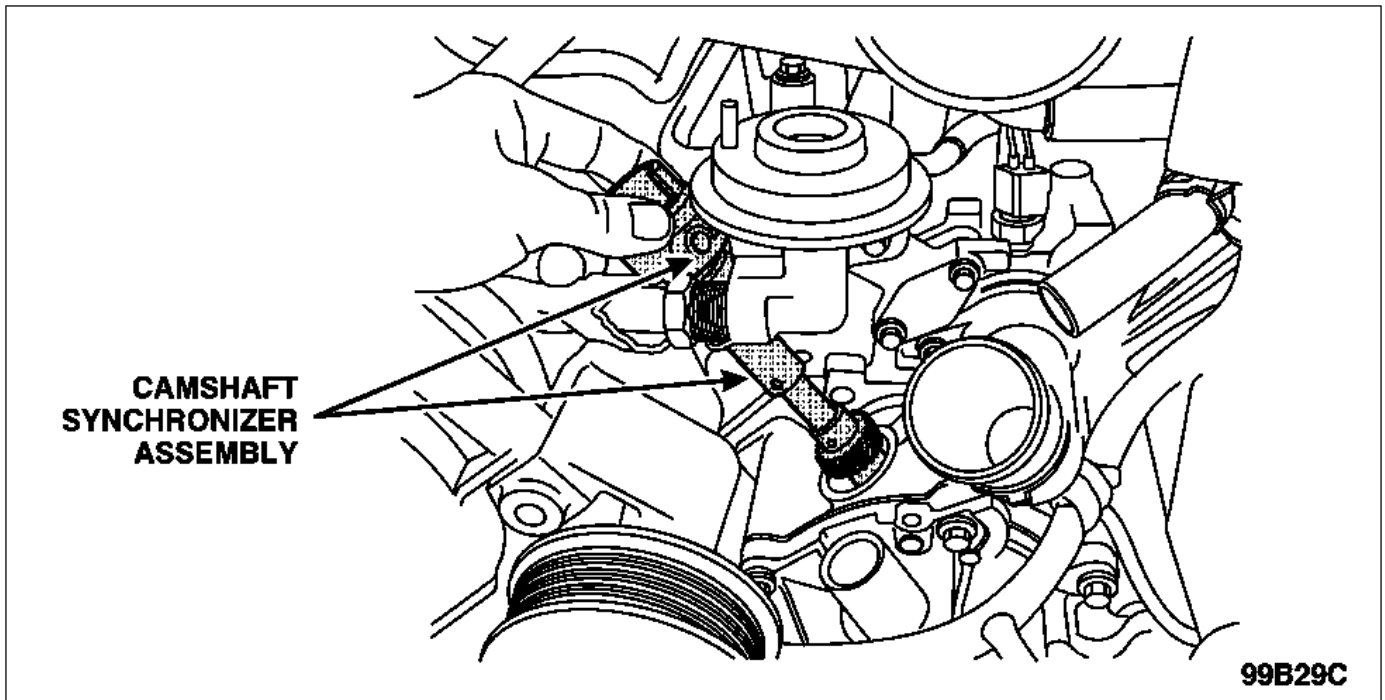

FIGURE 3
25. Remove the camshaft synchronizer assembly. See Figure 3.